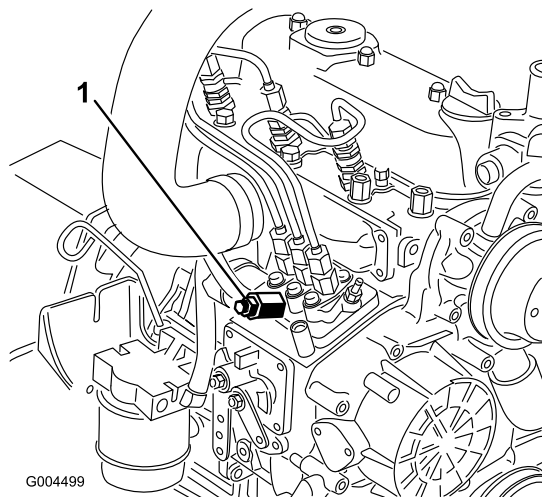

Figure 62
3. Place a rag under the air bleed screw on the fuel injection pump and open it (Figure 62).